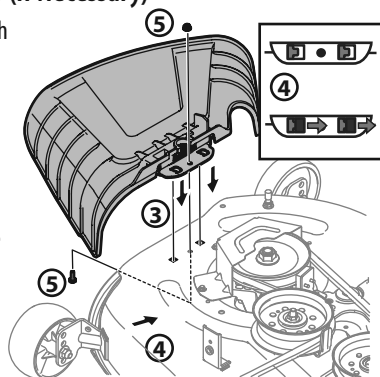

Figure 9
3. Place the chute deflector on the deck, be sure to insert the tabs on the chute deflector into the holes on the deck. See Figure 9.
4. Slide the chute deflector toward the rear of the tractor until the bolt hole in the chute deflector aligns with the hole in the deck. See Figure 9.
5. Secure the chute deflector in place with the flange lock nut and hex screw removed in step two. Tighten to 102-124 in-lbs (11.5-14 N-m). See Figure 9. Skip ahead to "Setting Deck Wheels."